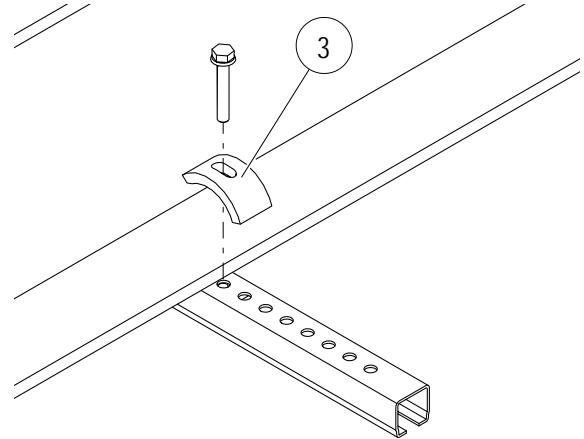

Fig. 27: Screw clamping bracket (Pos. 3)
- Tighten the square nut (Pos. 2) with the screw and tighten the clamping bracket (Pos. 3) on both sides of the support profile with 25 Nm (see Fig. 27).